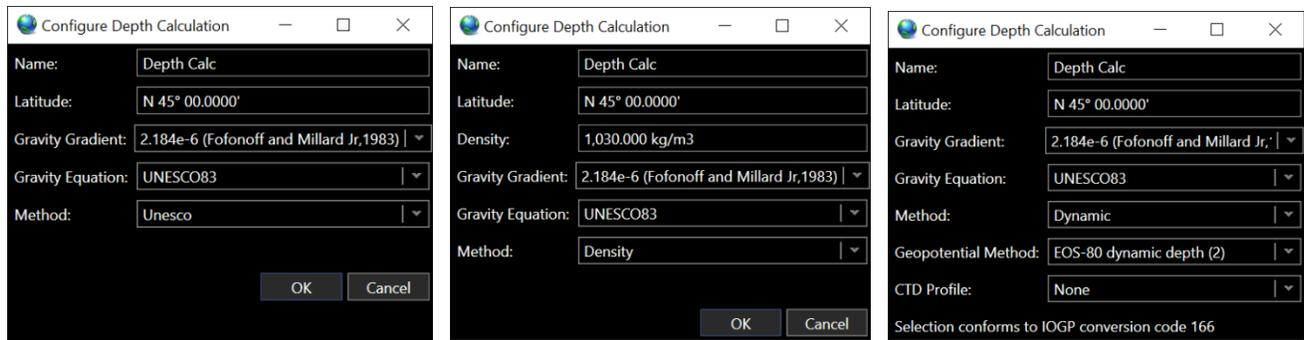

FIGURE 16 PRESSURE TO DEPTH CALCULATION METHODS
- a. **UNESCO Calculation** (See Figure 16)
- b. **Density Calculation** (see Figure 16)
- **Density:** Enter the mean density for the water column. This is captured as IOGP geopotential method B2 dynamic depth (2)
- c. **Dynamic Calculation** (see Figure 16)
- EOS-80 dynamic depth (1) – Method Code B5: Calls for an average density and are only valid for use on a processed CTD profile that has been binned into uniform pressure spacing so as not to skew the average density value
- EOS-80 dynamic depth (2) – Method Code B6: Calls for an average density and are only valid for use on a processed CTD profile that has been binned into uniform pressure spacing so as not to skew the average density value
- EOS-80 dynamic depth (3) – Method Code B7: Performs an integral and therefore can be performed on a raw CTD profile that may have non-uniform pressure spacing (recorded continuously or at some time interval). With this method it is important that the integral begin at zero seawater pressure and not at the first recorded seawater pressure